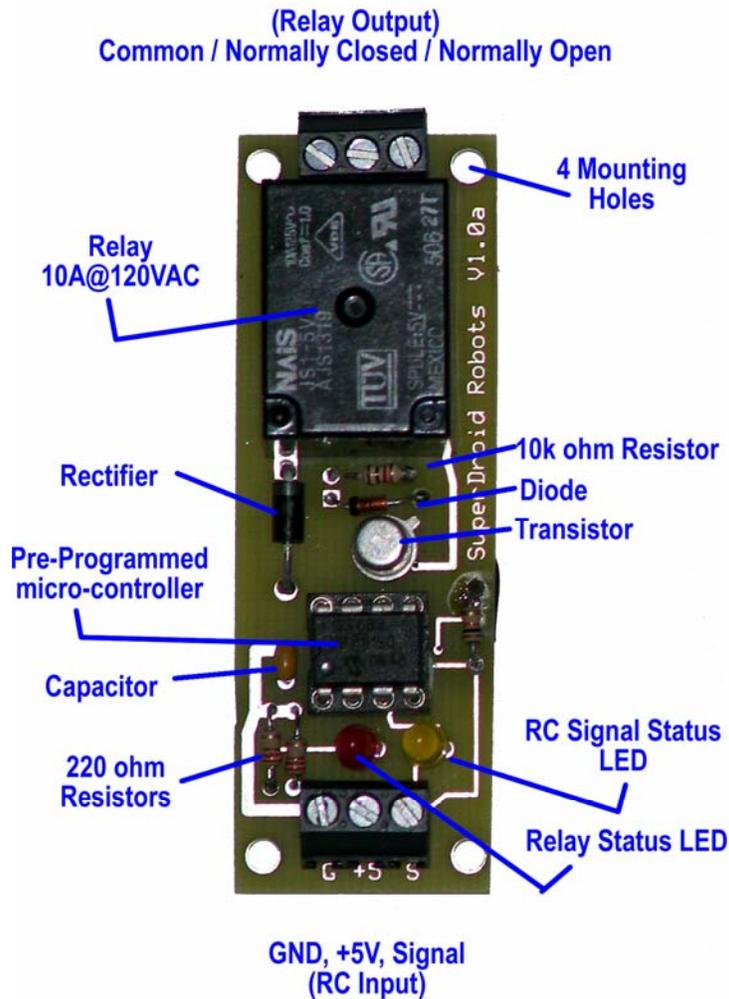

Figure 7: SPDT RC Switch Relay Board
1. Start by laying the board out in front of you. The Label should be on the left topside. Refer to Figure 7.
2. Insert all the LEDs as shown in Figure 7. The short leg of the LED should go into the square pad. (they will not work if put in the other way).
3. Insert all the resistors as shown in Figure 7. Use an ohm meter or refer to the color banding to determine the values of the resistors. The orientation of the resistor is not important.
5. Insert the capacitor as shown in Figure 7. Orientation is not important.
6. Insert the diode as shown in Figure 7. Orientation of the diode is important. It will short the circuit if put in the wrong way. The lead that comes out of the side of the diode with a line on it should go in the square pad hole.
7. Insert the transistor Figure 7. Orientation is important. There is a small tab on the transistor, it should be oriented as shown in Figure 7 (pointing toward the upper right).
9. Install the Screw Terminals (if provided) as shown in Figure 7.
10. Insert the Relay as shown in Figure 7.